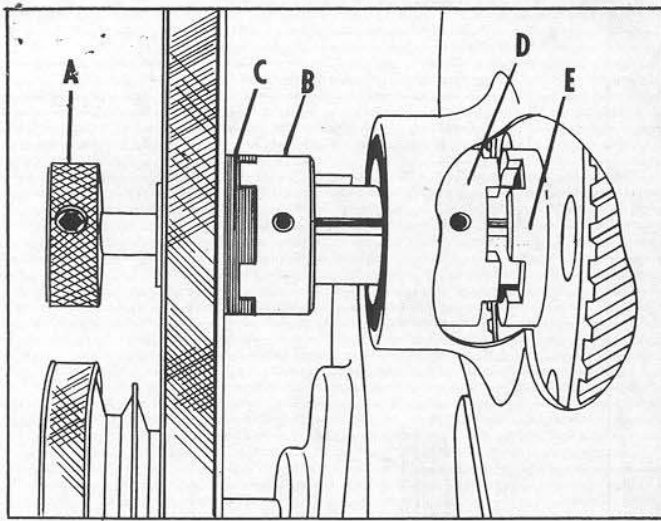

Fig. 19
When using your machine for wood cutting (3000 FPM), the shifter knob (A) Fig. 19, is always pulled out, all the way, so that the lugs of the clutch (B) are engaged with the hub (C) of the driven pulley. This will disengage the clutch (D) from the hub (E) of the gear that transmits power through the gear box, as shown in Fig. 19. It may be necessary to rotate the pulley manually in order to line up the clutch lugs with the slots in the hub of the pulley. This provides a direct drive from the motor pulley to the driven pulley, by-passing the gear box.